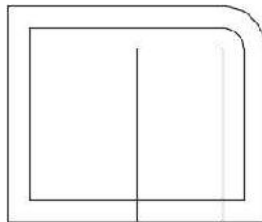

FIGURE 2.31: The lines are extended to the boundary edge.
4. Press ↵ to end the EXTEND command (see Figure 2.31).